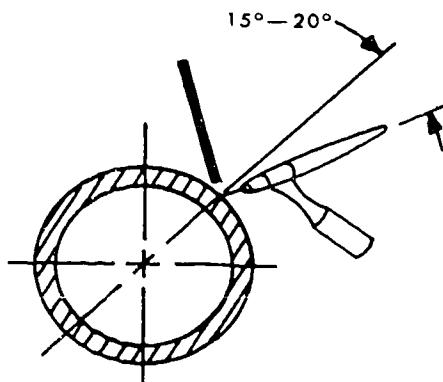

Figure 7-20. Finished horizontal weld bead.
**Welding application.** Whenever possible, start the arc by using a high-frequency arc starter attachment. The high-frequency current should be sufficient to start the arc without touching the electrode to the work piece. When joints require multilayer welding, stagger the starting and stopping points of successive passes, as shown in figure 7-19. Each layer should be not more than  $1/8$  inch thick; deposit the several layers in succession and complete each layer before starting the next. The preferred method for breaking the arc is to gradually decrease the welding current with the foot-operated current control until the arc is extinguished. If the foot-operated current control is not available, increase the rate of travel to a speed at which the arc will travel without fusing the base metal; then break the arc. A finished horizontal weld bead of stainless steel pipe is shown in figure 7-20.